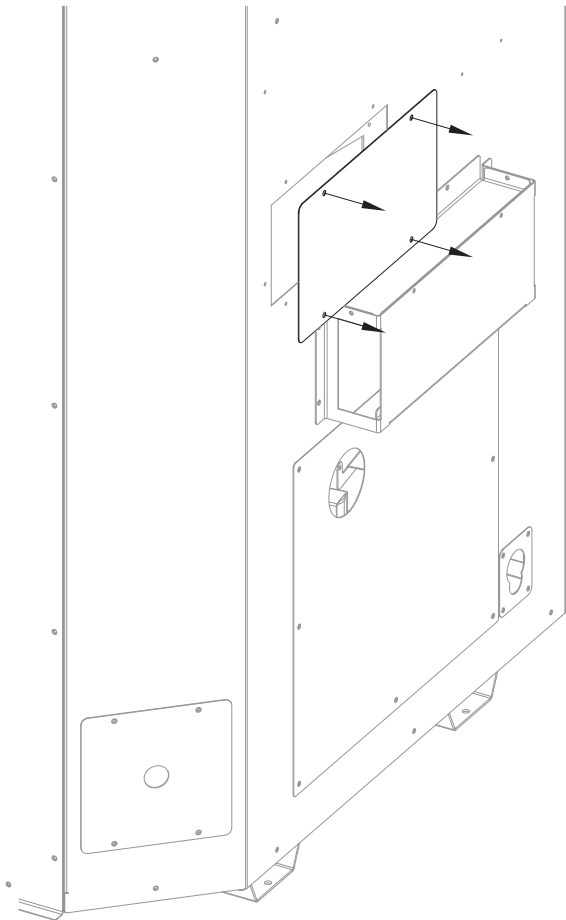

Figure 3.10, Heat Transfer Kit Cover Plate Removal (1 shown)
Figure 3.10 shows removal of the Heat Transfer Kit cover plates. There are (2) square cover plates located on the left and right side of the outer shell of the appliance. This appliance can have (2) Heat Transfer Kits installed at the same time. It can be up to two of the same heat transfer kit or a combination of interior and exterior kits.